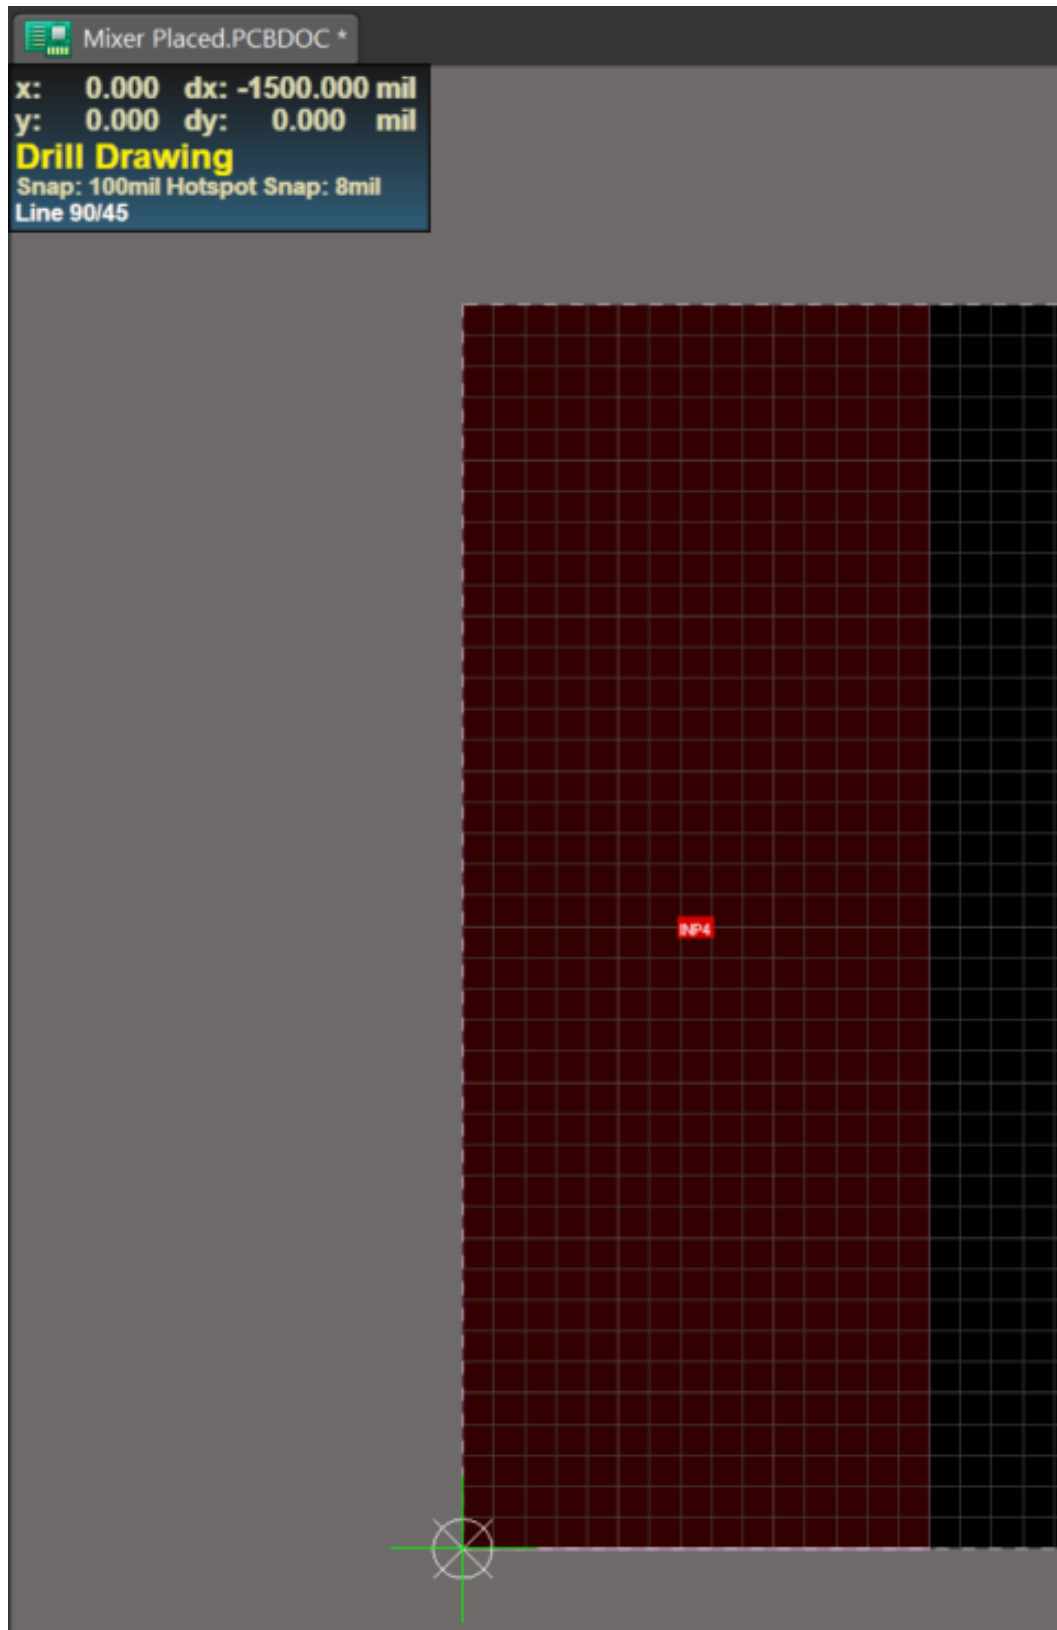

Figure 6. Resizing room INP4
17. Right-click to exit the command once you're finished. Your end result should look similar to Figure 6.